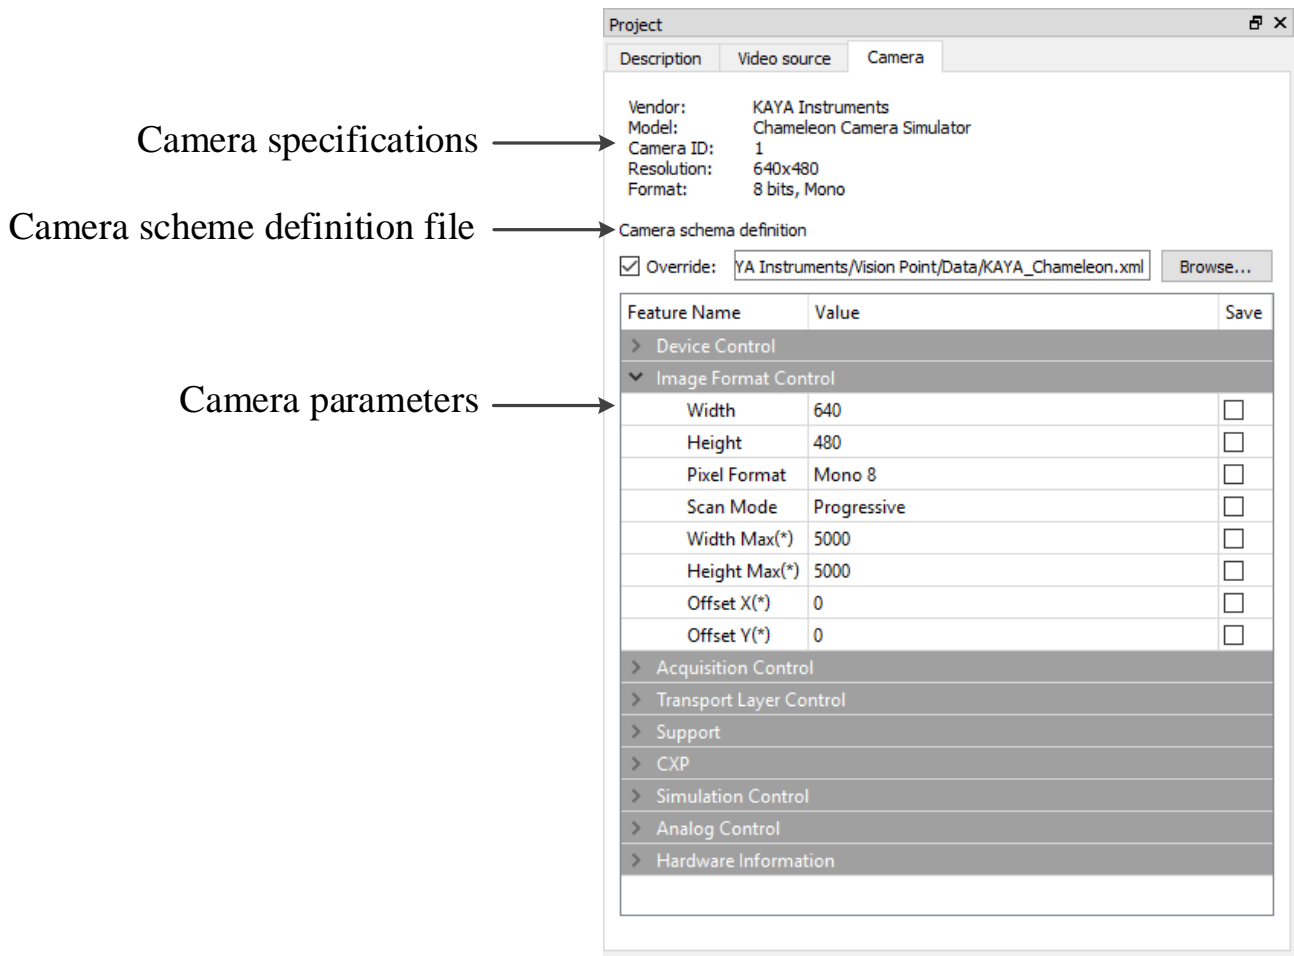

Figure 26 : New XML file loaded
6. Once the XML file is specified, camera properties will be displayed and loaded with default values as shown in Figure 26. If the XML file doesn't load correctly, an error probably exists in the chosen file. In this case the XML file structure must be repaired or another XML file is to be loaded.